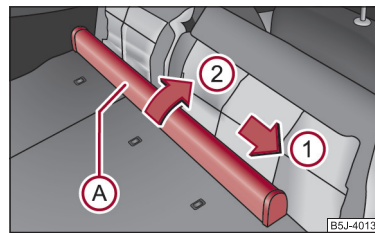

Fig. 67 Rear seats: Net partition housing
- Push the net partition housing (A) ⇒ page 69, fig. 67 in the direction of arrow (1) and take it out of the mounts of the rear seat backrests on the right in the direction of the arrow (2).